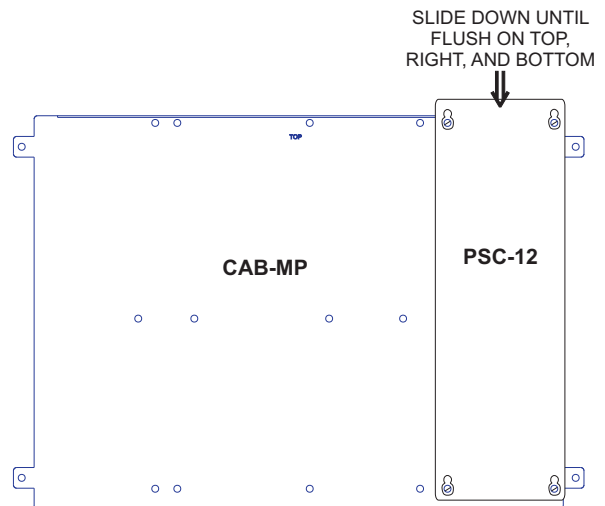

Figure 5
2. Place the PSC-12 over the four screws on the Mounting Plate and slide it down or towards you to rest on the four screws. (Refer to Figure 5.) When the PSC-12 is in the correct position it will be flush with the top, bottom and right side of the Mounting Plate.